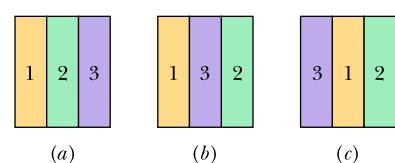

Figure 18.3 Question 6.
- 6** Figure 18.3 shows three different arrangements of materials 1, 2, and 3 to form a wall. The thermal conductivities are $k_1 > k_2 > k_3$.